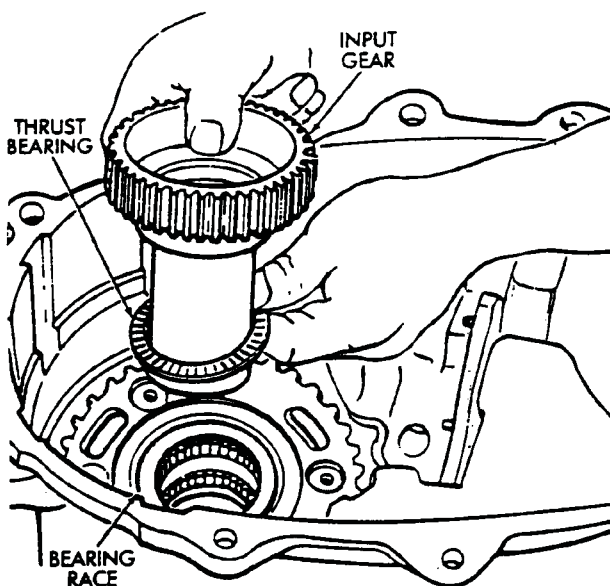

Fig. 4-39 Install Input Gear, Thrust Bearing and Race
25. Install input gear thrust bearing race in front case bearing bore and on top of input gear inner bearing (Fig. 4-39).
26. Install thrust bearing in input gear. Then install gear and bearing in case (Fig 4-39).